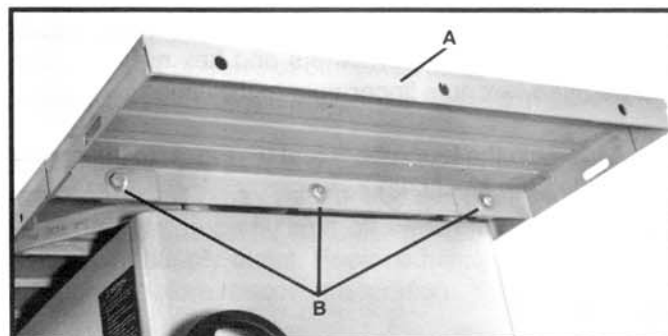
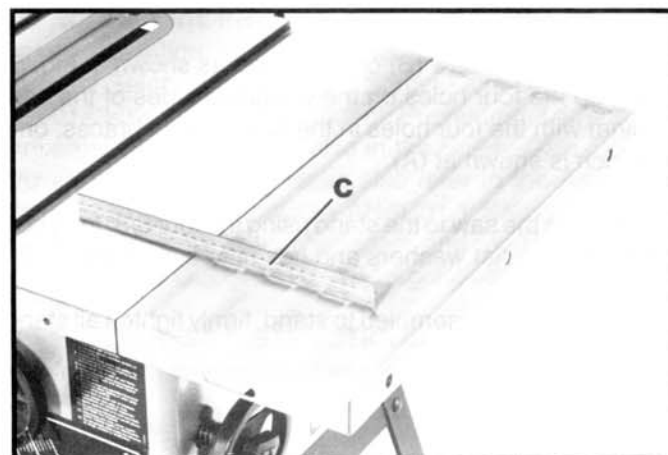

Fig. 8
Fig. 9
1. Assemble extension wing (A) Fig. 8, to the saw table using the three screws and washers (B). With a straight edge (C) Fig. 9, make sure the extension wing is level with the saw table before tightening the three screws (B) Fig. 8.